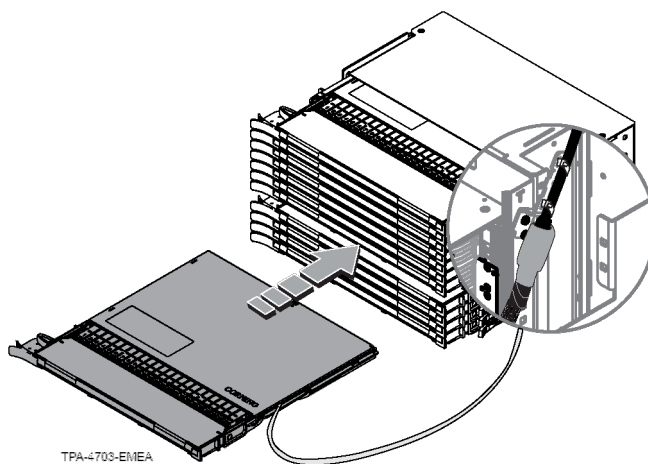

Figure 45
Step 19: Insert cassette into the housing, starting at the top of the housing (Figure 45).